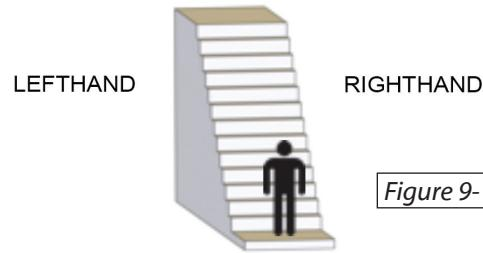

Figure 9-1
1. Determine if the lift will be installed on the right or left side of the staircase. *[Figure 9-1]*